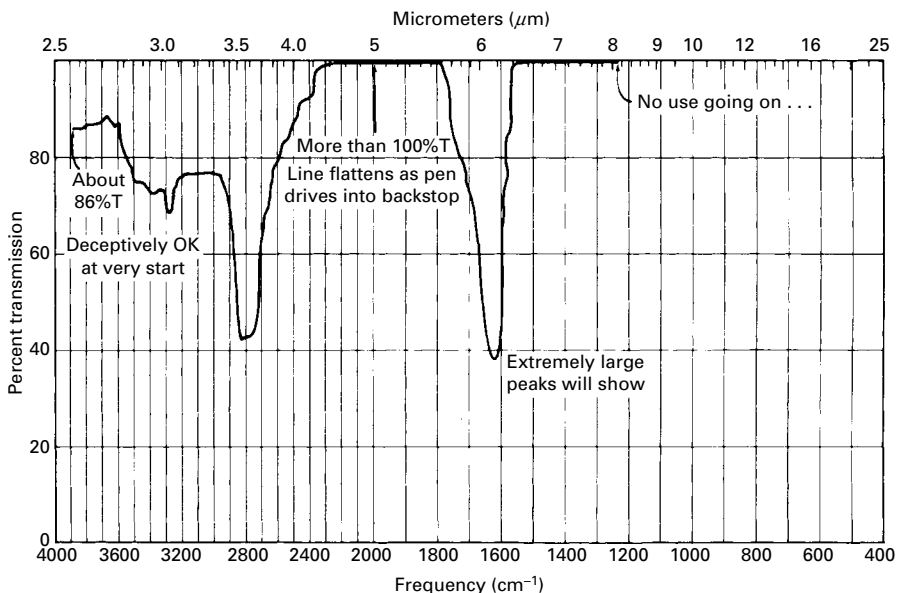

FIGURE 32.20 An IR with an unruly baseline.
8. Now *slowly, carefully*, move the pen carriage manually so that the instrument scans the entire spectrum. *Watch the pen!* If the **baseline** creeps up and goes off the paper (Fig. 32.20), this is not good. Readjust the 100% control to keep the pen on the paper. Now, keep going, slowly, and *if* the pen drifts up again, readjust it again with the 100% control and get the pen back on the paper.